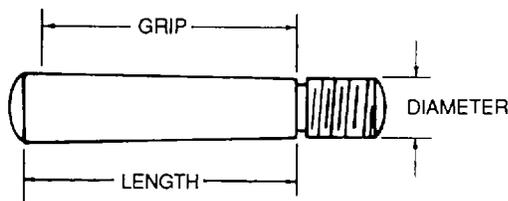

Figure 2-48. Threaded Taper Pin
(2) **Threaded taper pins.** Threaded taper pins, AN386, as shown in figure 2-48, are used with taper pin washers, AN975, and shear nuts, AN320. They are safetied with cotter pins, MS24665, or safetied with self-locking nuts, MS21083 (These Brown and Sharpe pins are installed in a standard "B & S" tapered socket.) The pin is set with a light tap from a rawhide or nylon mallet. The small end of the taper is installed flush or not more than .060 inch above the surface of the component. It is permissible to install a large size pin in some cases. Refer to the specific aircraft maintenance manual for maximum allowable size and required torque on the nut.